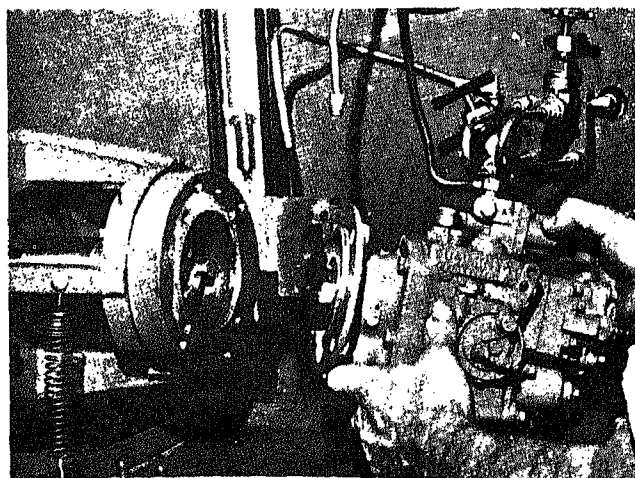

Fig. 511-6. Mounting fuel pump with buffer type drive
1. Install the proper drive coupling to test stand, which matches pump drive shaft coupling, so pump being tested may be driven. See Fig. 511-6 and 511-7.